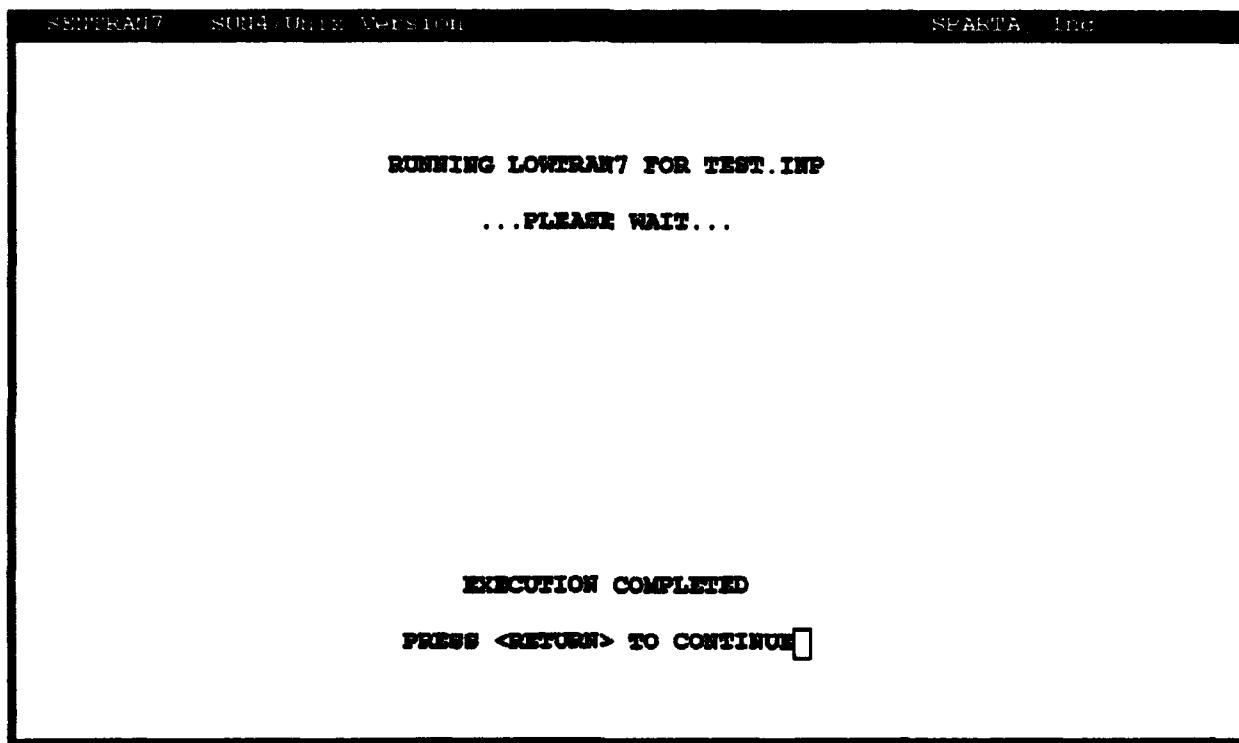

Figure 60. Screen Reporting the Completion of the LOWTRAN7 Calculations
- 5) We now wait for the program execution to complete, at which time we will see the screen shown in Figure 60. The time required to complete a run will depend on many factors, such as the speed of the host computer and the type of calculation.